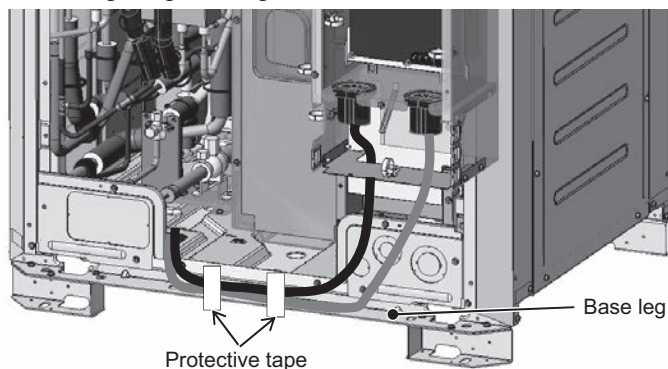

Figure 14
- (15) Place the excess weak and strong electrical wirings in the space at the base legs as shown in Figure 14 to keep them from being caught during maintenance work.